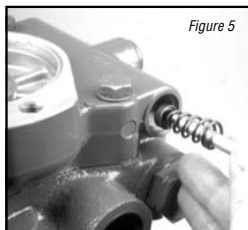

Figure 5
**4** Use a pencil magnet or similar tool to carefully remove the charge pressure spring and poppet from the pump adaptor assembly. (See Figure 5) Use caution not to drop the charge pump poppet into the pump adaptor assembly.